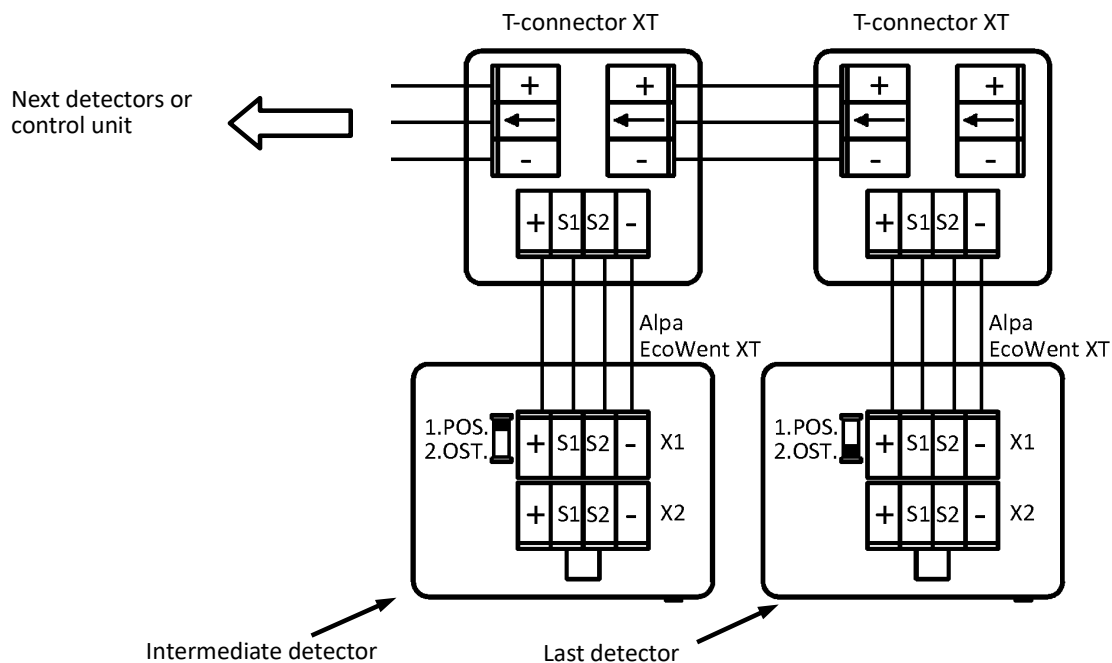

Figure 8: Settings of the configuration switch
In the last Alpa EcoWent XT detector (the most remote one from the control unit) of the open bus system, the configuration switch on the plate must be set to position 2 (see Figure 8). Inappropriate switch setting causes the system to malfunction (indicating failure and lack of response to a signal from the following detectors).
- ✍ In the detectors, set the configuration switch in position 1. In the last detector, set the configuration switch in position 2 (see Figure 8). The control unit should show the state of OPERATION for the whole bus.
- ✍ in all the detectors being part of the loop, the configuration switches are set to position 1 (the control unit works as the last detector) – see Figure 8,